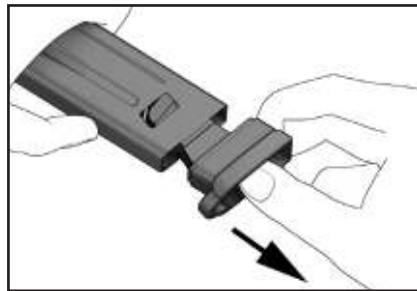

Figure 35
3. With the locking plate still depressed, squeeze the locking tabs located on the right and left sides of the floorplate (see Figure 35).